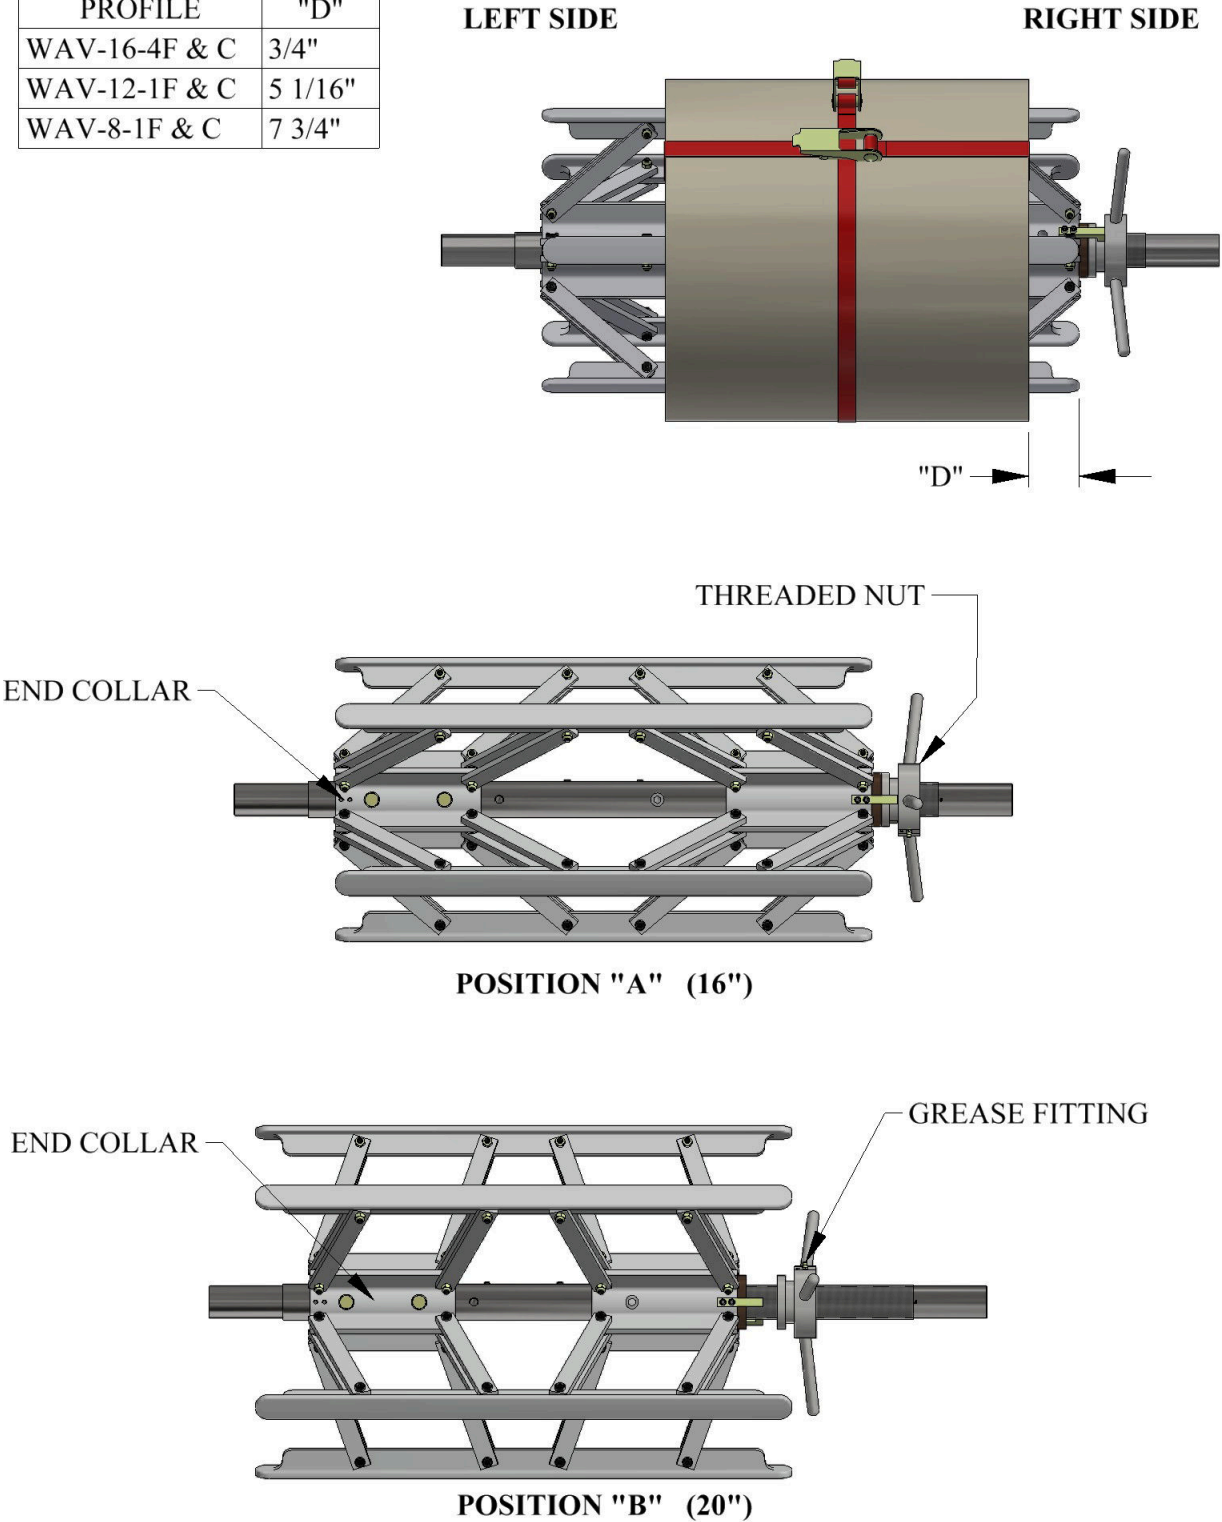

Figure 13: Expandable Arbor Set-Up
(Figure 13)
4. Slide the arbor left or right to get the correct dimension measuring from the edge of the coil to the end of the Support Bar on the Threaded Nut side. (Figure 13)
5. Before transporting the loaded Expandable Arbor, the coil should be secured around the outside edges through the inside diameter using a strap, rope, etc. to prevent the coil from telescoping (Figure 13).